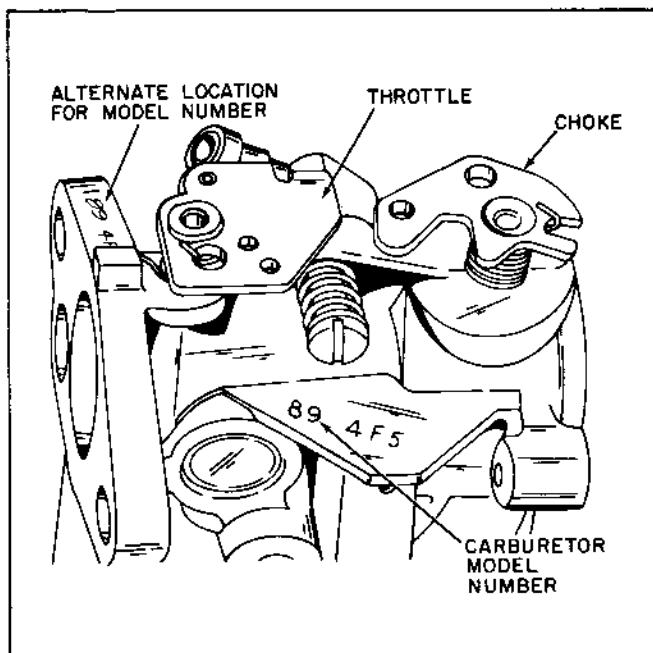

Figure 3-1. Tecumseh Float Carburetor Identification Number
- (1) When servicing this carburetor, use the engine model number and the Master Parts Manual for the proper service parts information. Further identification of the carburetor is stamped on the carburetor body as shown in Figure 3-1. Refer to the standard service part number and the identification number on the carburetor body (Fig. 3-1), in any correspondence.
- (2) This Tecumseh carburetor is a conventional float type carburetor with refinements for better operation and ease of servicing.